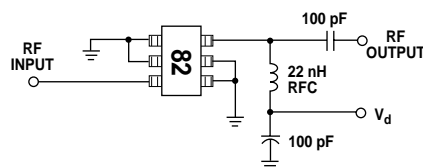
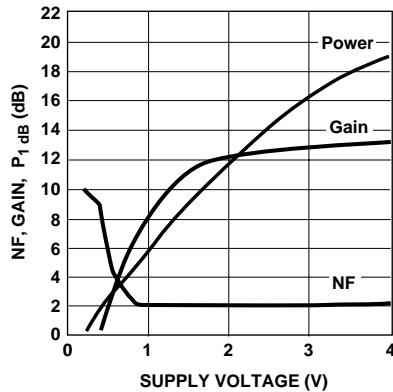

Figure 10. Test Circuit.
Figure 19. Gain, Noise Figure, and Output Power vs. Supply Voltage.
1. Guaranteed specifications are 100% tested in the circuit in Figure 10 in the Applications Information section.
The circuit shown in Figure 10 is used for 100% RF testing of Gain and Noise Figure. The test circuit is merely a 50  $\Omega$  input/output PC board with a RFC at the output to apply DC bias to the device under test. Tests in this circuit are used to guarantee the  $NF_{\text{test}}$  and  $G_{\text{test}}$  parameters shown in the table of Electrical Specifications.
mental response. This data was measured in the test circuit in Figure 10.
While the MGA-82563 is designed primarily for use in +3 volt applications, the internal bias regulation circuitry allows it to be operated with power supply voltages from +1.5 to +4 volts. Performance of Gain, Noise Figure, and Output Power over a wide range of bias voltage is shown in Figure 19. (This data was measured in the test circuit in Figure 10.) As can be seen, the gain and NF are fairly flat, but an increase in output power is possible by using higher voltages. The use of +4 volts increases the  $P_{1dB}$  by over 2 dBm.